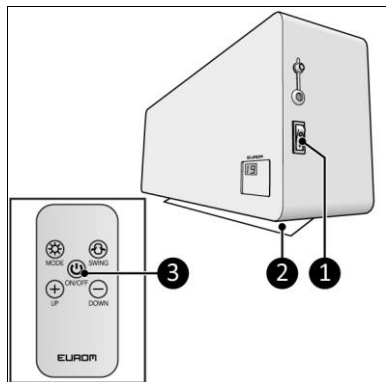

Figure 13
1. Set the ON/OFF switch to the ON position (Figure 13, pos. 1).
3. Press the MODE button on the device (Figure 13, pos. 2) or the ON/OFF button on the remote control (Figure 13, pos. 3).
1. Press the MODE button on the device (Figure 13, pos. 2) or the ON/OFF button on the remote control (Figure 13, pos. 3).